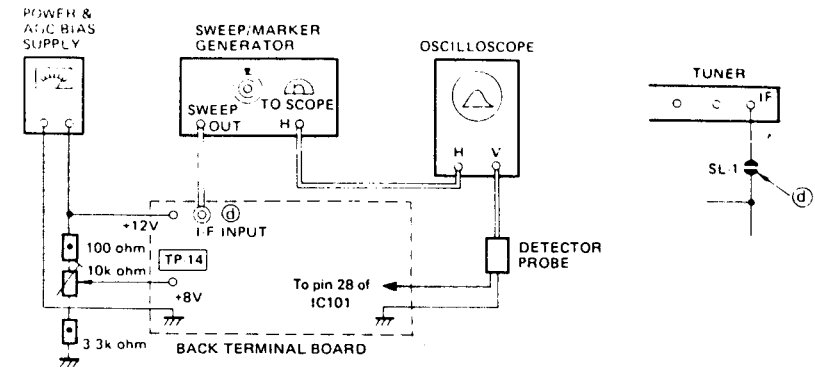

Figure 7. Picture I-F Sweep Alignment
- GENERAL** ..... Refer to Figure 7 for test equipment connection.
1. Disconnect the solder link SL-1 (see Figure 7) on the foil side of the Back Terminal Board.
- SWEEP/MARKER GENERATOR** ..... Connect to the point ④ as shown in Figure 7 on the Back Terminal Board.